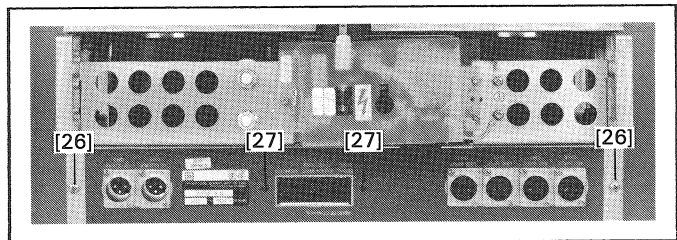

Fig. 13
- Unfasten 2 screws [27] (Fig. 13) of the CONNECTION BOARD.